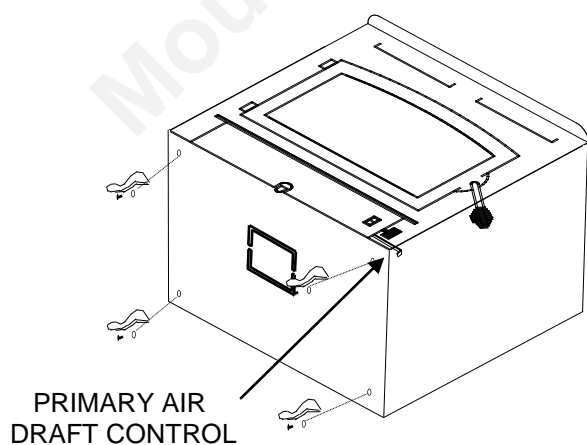

Figure 12
3. Check primary air draft control to ensure that it slides freely. (See Figure 12).
5. **(Leg Kit):** If legs are to be used, obtain four legs, attach legs to holes in bottom of unit with bolts and washers supplied. (See Figure 12).